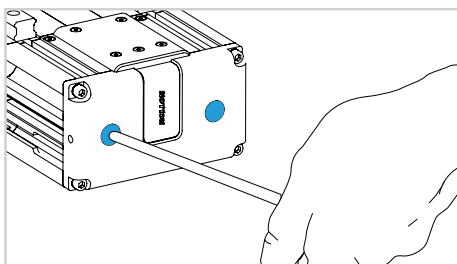

Fig. 10
- 11) Remove the screw of the belt tensioner (Fig.10).